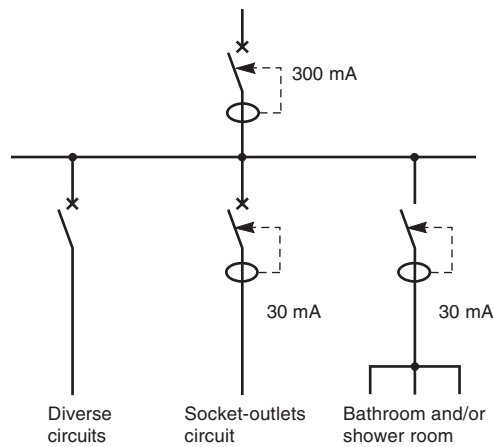

Fig. Q5 : Installation with incoming-supply circuit-breaker having instantaneous differential protection
- Protection against indirect contact hazards by RCDs (see Fig. Q5) of medium sensitivity (300 mA) at the origin of the installation (incorporated in the incoming supply circuit-breaker or, on the incoming feed to the distribution board). This measure is associated with a consumer installed earth electrode to which must be connected the protective earth conductor (PE) from the exposed conductive parts of all class I insulated appliances and equipment, as well as those from the earthing pins of all socket outlets